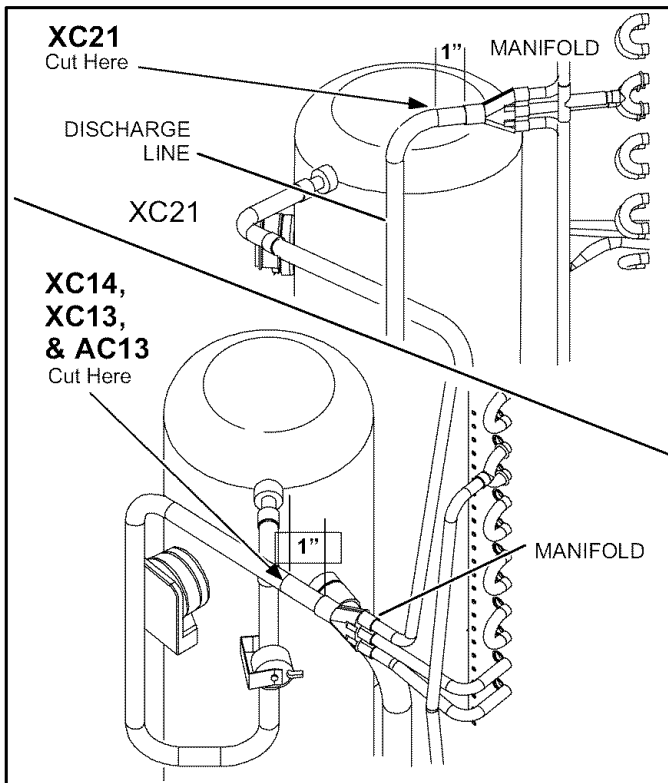

Figure 2. Existing Discharge Line
5. Use a tubing cutter to cut the discharge line approximately one inch from the manifold on the end of the discharge line. See figure 2.